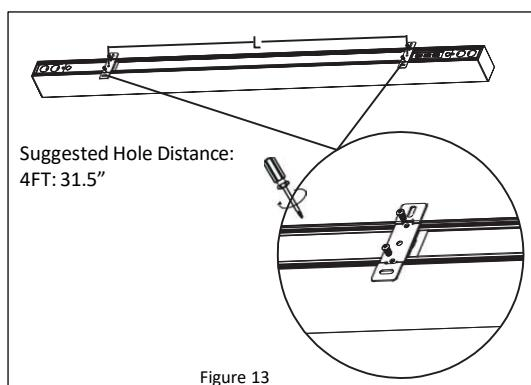

Figure 13
2. Attach the 2 surface-mount brackets to fixture back with provided short screws. *See Figure 13.*